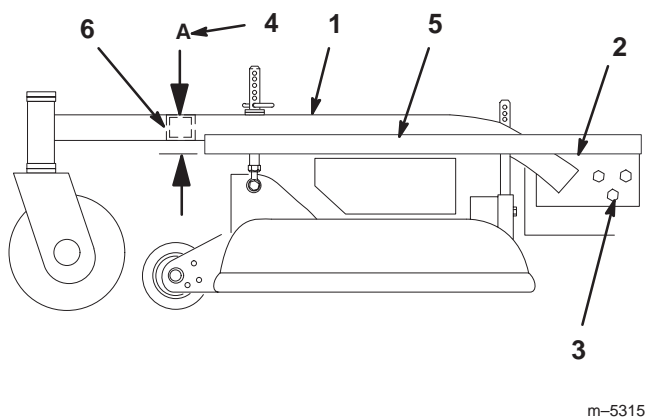

Figure 45
2. Place a long straight edge on top of the engine deck as shown in figure 45.
- At the carrier frame cross tube, measure location “A” height (Fig. 45). This measurement must be 2–13/16 in. (71 mm), plus or minus a 1/4 in. (6 mm).
- Loosen the carrier frame mounting bolts on both sides of the machine (Fig. 45).
- Align the carrier frame and engine deck to match 2–13/16 in. (71 mm), plus or minus a 1/4 in. (6 mm) at location “A” (Fig. 45).